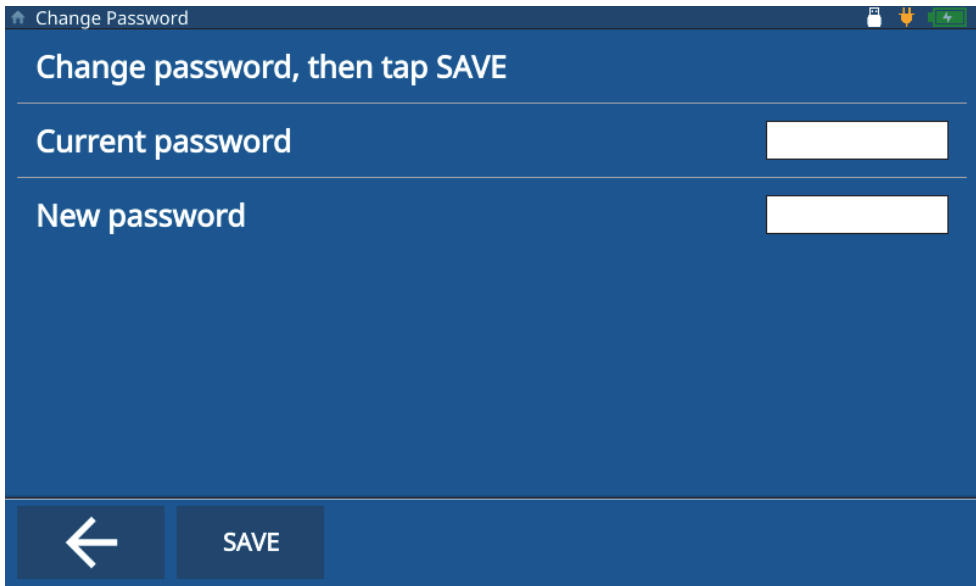

Figure 8-4 Change Instrument Lock password
5. Enter the current password and the new password. If none is desired, leave **New Password** blank and the password will be removed (see Figure 8-4 on page 75)).